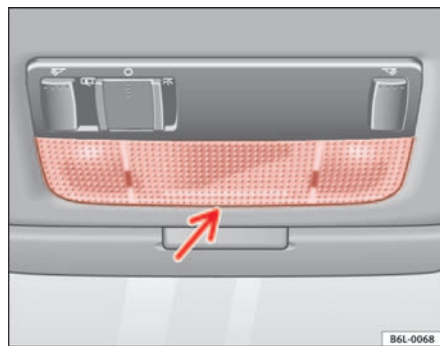

Fig. 159 Front reading light
- Insert a fine screwdriver between the casing and the glass ⇒ fig. 159.